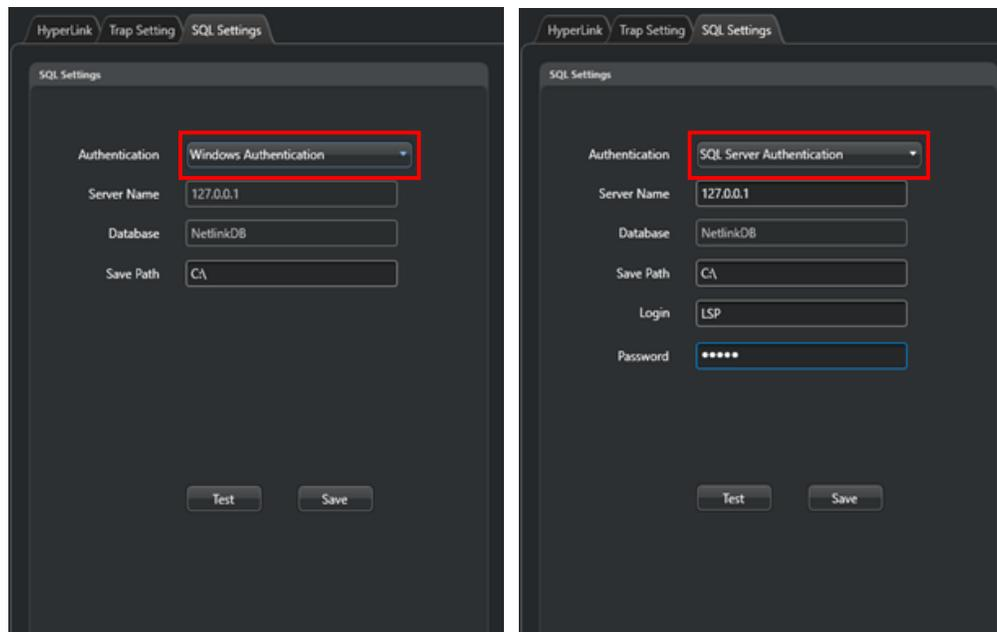

Figure 31
15. Open the "LSPNetLink Configs" page, select the "SQL Settings" tab, and enter the SQL server's IP address, the save path for the SQL server machine (or select another folder), and enter a name for the database. If the SQL server is on the local host, login with Windows Authentication, otherwise you must choose an SQL server account to log into by entering a user name and password. Click the save button to save the SQL settings. (Figure 31)